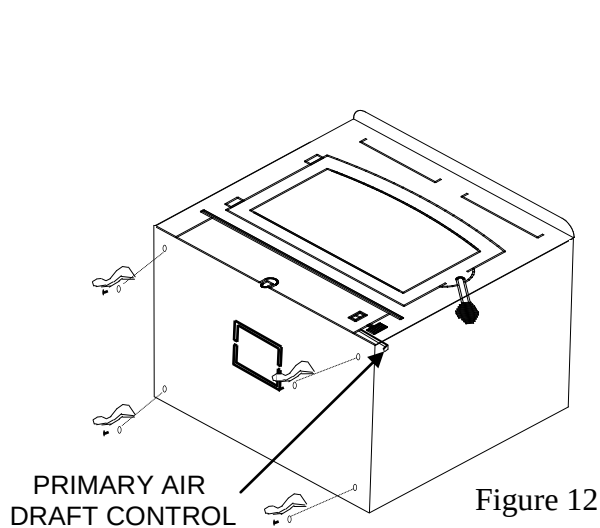

Figure 12
3. Check primary air draft control to ensure that it slides freely. (See Figure 12).
5. **(Leg Kit):** If legs are to be used, obtain four legs, attach legs to holes in bottom of unit with bolts and washers supplied with leg kit. (See Figure 12).
(See Page 27, Figure 12).
Your unit does not have a damper. You must use primary air lever for your control of fire. To open, pull lever out. To close, push lever in. (See Page 25, Figure 12).